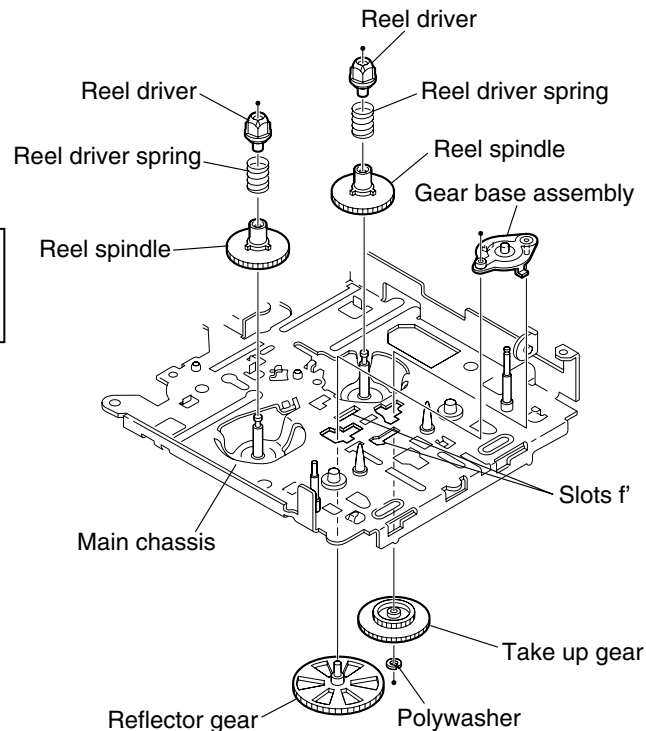

Fig.36
**■ Removing the reel driver / reel spindle (See Fig.36)**